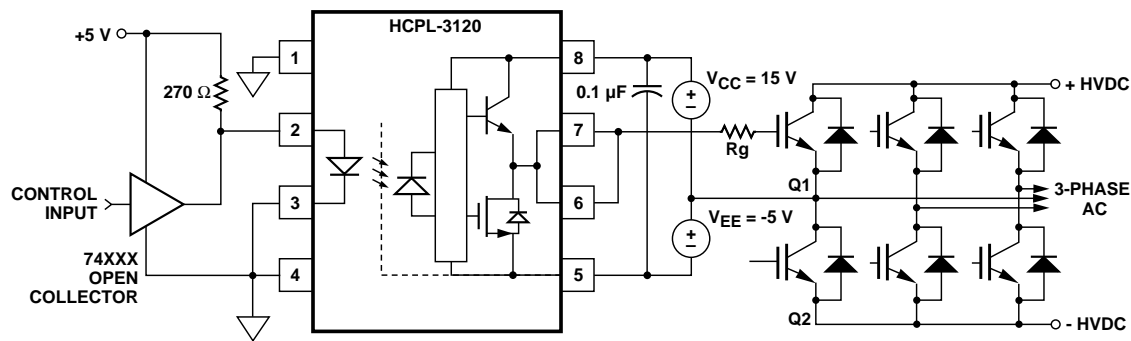

Figure 26. HCPL-3120 Typical Application Circuit with Negative IGBT Gate Drive.
Step 1: Calculate R_g Minimum from the I_{OL} Peak Specification. The IGBT and R_g in Figure 26 can be analyzed as a simple RC circuit with a voltage supplied by the HCPL-3120.
For the circuit in Figure 26 with I_F (worst case) = 16 mA, $R_g = 8 \Omega$, Max Duty Cycle = 80%, $Q_g = 500$ nC, $f = 20$ kHz and T_A max = 85C: